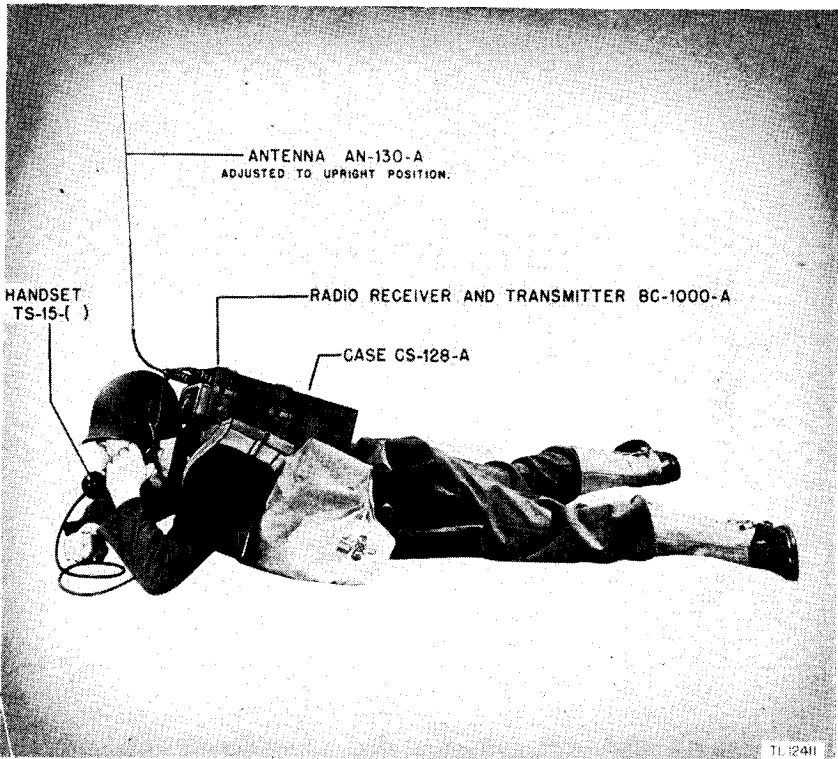

Figure 2. Radio Set **SCR-300-A** in use, showing adjustment of Antenna **AN-130-A**.
*e.* TYPE OF ANTENNA. Radio Set SCR-300-A is designed for transmission and reception with a vertically polarized antenna. Therefore, great care must be taken to maintain the antenna in a vertical position at all times, regardless of the position of the set. (See fig. 2.)